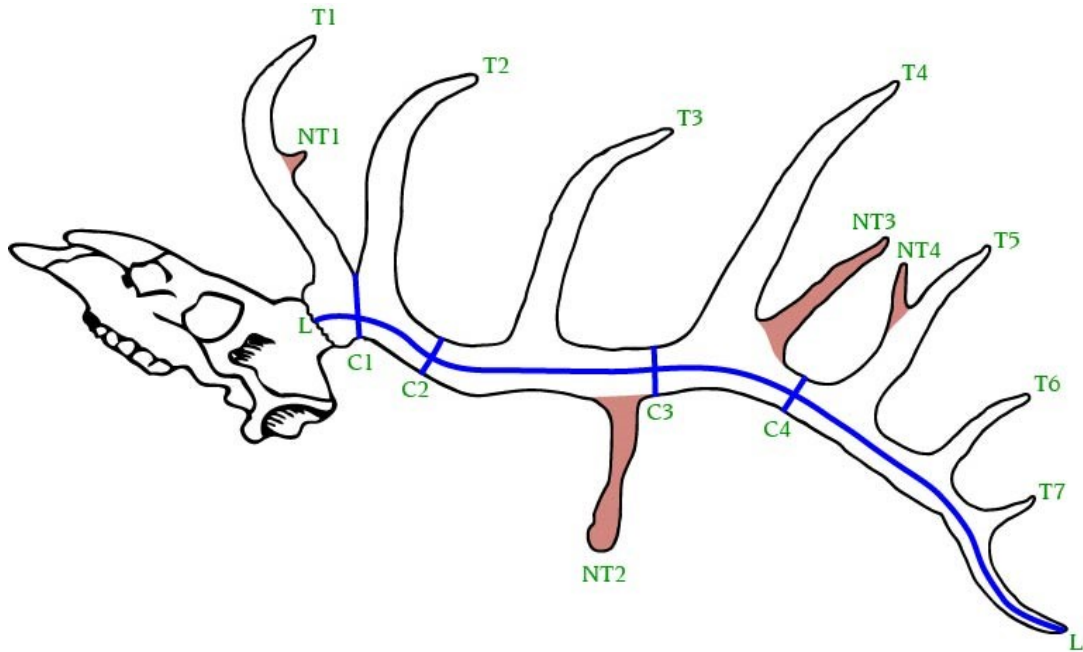
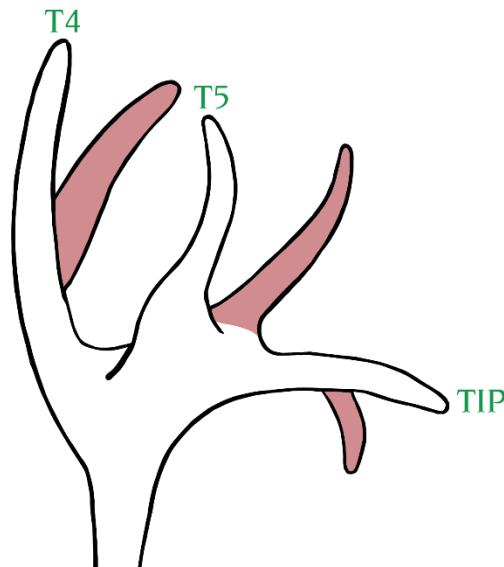

Figure 1
Figure 2
1. Identify the tines. Draw a baseline for all tines (T and NT) with a pencil. This was explained in GDI. You complete this step even if they appear to be slightly less than 1 inch in order not miss a potential valid point. For complex antlers, mark all T and NT tines with colored tape, but do not mark the main beam tip. It is important to note that all tines for all three elk varieties must be designated as T or NT before starting to measure. (Figures 1 and 2)
2. Main beam. A cable is much preferred over a tape for this measurement. Measure the main beam antler on the center of the outside curve from the lowest edge of the burr to the tip. (Figure 1, L) The tip is that point that is farthest from the burr and is nearly always the point that reaches the farthest back; the tip cannot be a tine off a tine. Before starting, mark the center points to the tip along the beam with a pencil. The cable must not be pressed into the groove above the burr. Stay on the outside center of the main beam at all times; see GDI.
3. Typical tines. Measure the length of all valid typical tines of 1 inch or more, starting with the brow tine (T1) and working up; see GDI. You may have drawn baselines on some tines that were just under 1 inch; do not record these. Measure from the top of a tine to the center baseline, as delineated, for T1, T2, T3, etc. (Figure 1) Remember, typical tines project forward (T1), sideward (T2, T3), and upward T4 and beyond from the main beam; if a tine grows in a different direction, it is not typical. With large, mature elk, normally the first 5 tines above the burr are matched with tines on the opposite side (T1 through T5), but if one is missing on one side, mark it with a zero in the cell. (Figure 2) If T6 and T7 are not matched with a valid typical tine(s) on the opposite side, they are designated as NT unless the opposite tine is clearly broken off. It is worth noting that it is rare (not impossible) for an elk to have matching T6 and T7 tines on both sides, this would be a typical 8x8.
Typical tines must be spaced like those on a typical elk (Figure 1 and 4) and the tines on the left main beam must be positioned with the same spacing as those on the right main beam. Typical tines do not “cluster” at the base; this means that in the U-shaped valley between two tines, there cannot grow another typical tine, even if that tine is growing in the same direction as the other two near it; these are called inter-tines and are NT (Figure 1, tine NT3). All elk and marals, especially Roosevelt’s and Tule elk, can form crowning; crown points are not designated typical (Figure 2, shaded tines). If an elk has typical T6 and/or T7 points (that is, they point straight up from the beam) on one side, they must be matched with typical tines on the opposite side and be spaced the same; if they are not, they are designated NT tines.